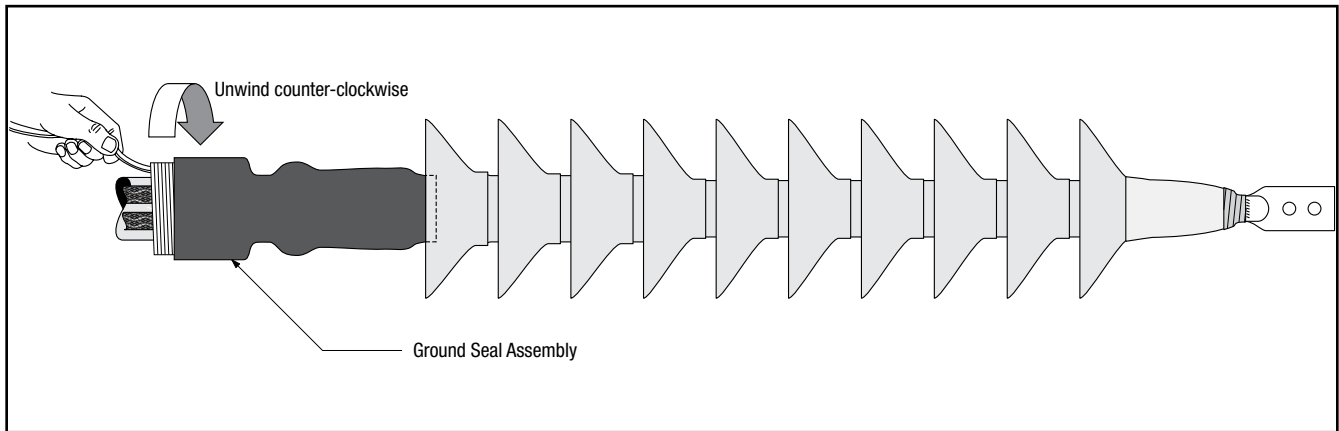

Figure 20
6.4 Slide the parked ground seal assembly onto the termination. Start to shrink underneath the first skirt. Remove the core by pulling the loose end while unwinding counter-clockwise. (Figure 20)